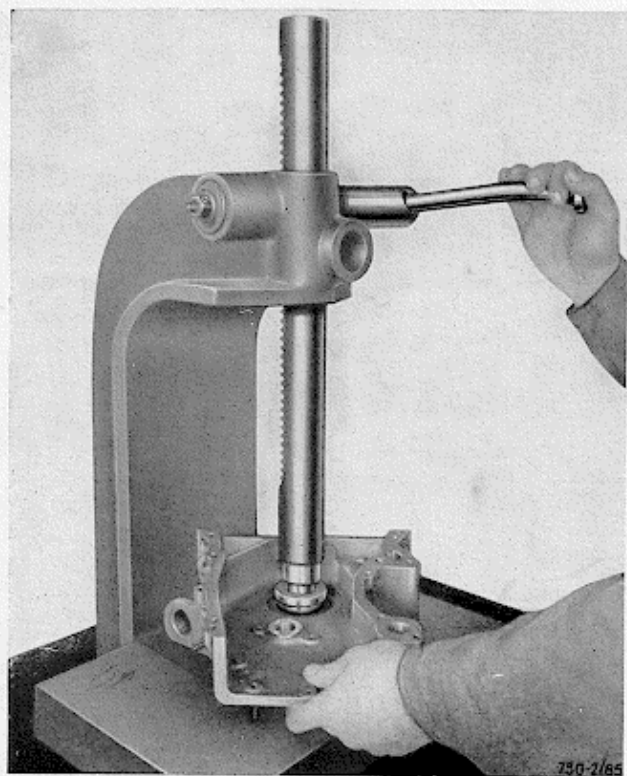

Fig. 85 - Inserting the oil seal into the front cover by means of the tool No. 6121.07.294
- Examine the oil seal; replace it if necessary, using tool 6121.07.294 (fig. 85).